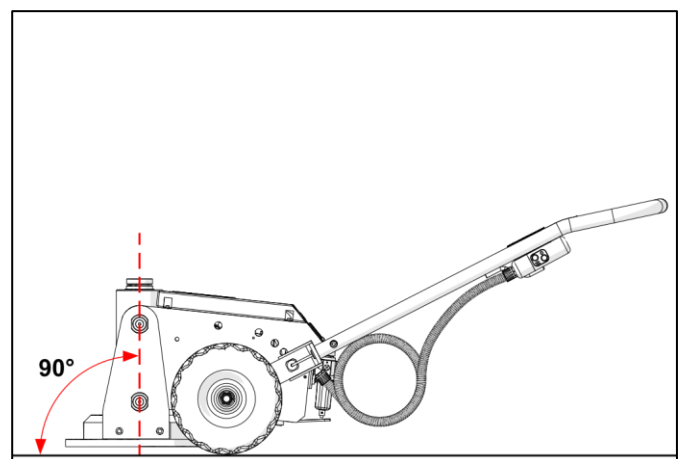

Figure 5.3: Accurate Positioning of the Unit
3. Position the jack accurately under the lifting point by adjusting the handle to its lowest position and tilting the jack back slightly onto its wheels (See figure 5.3).